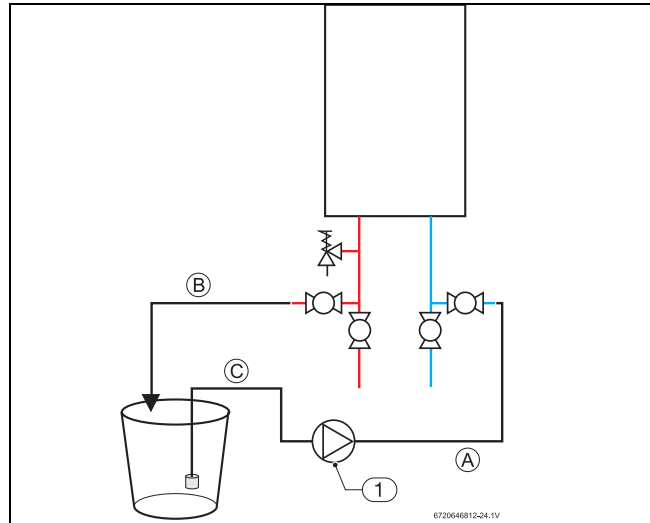

Fig. 68
- ▶ Connect a line (A) from the outlet of the circulating pump (installer supplied) to the inlet water fitting on the water heater (see fig. 68.)
- ▶ Using another line (B), connect the water outlet fitting on the water heater. Route the other end of this line into a descaling reservoir.
- ▶ Using a 3rd line (C) from the descaling reservoir, connect to the inlet side of circulating pump. Install a filter on the end of the line in the descaling reservoir.